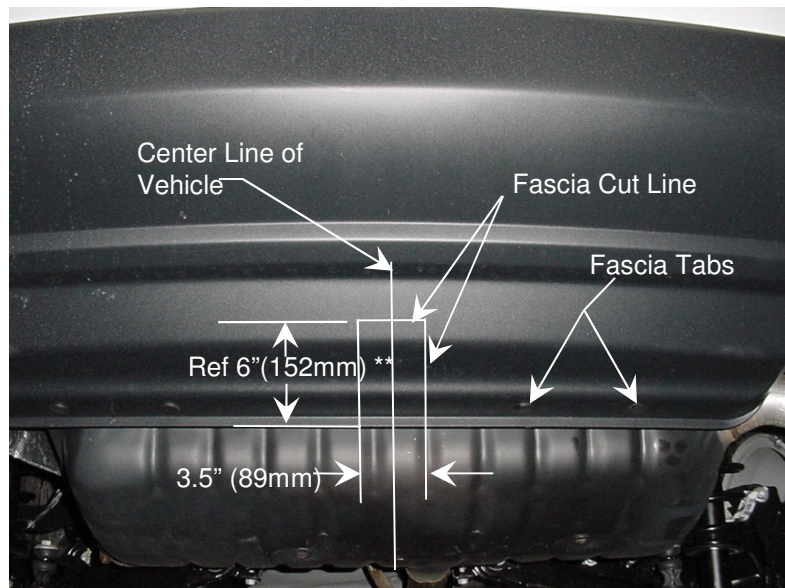

Figure 5 Fascia Trimming Diagram for 2011 & Later Jeep Patriot and Compass Models
- 2011 and later Jeep Patriot and Compass models.** Fascia trimming is required for hitch installation. Obtain vehicle owners approval before cutting. 2011 model requires a 3 1/2" (89mm)x 6" (152mm) vertical notch (measured from the bottom of the fascia lip). Mark fascia with non-permanent marker. Confirm fascia cut height by using figure 4 procedure and mark height from ground on fascia. Cut the lower of the two marks. Use Template as supplied in Appendix "A". See Figure 5 for additional fascia trimming diagrams and dimensions
See diagram (Fig. 3 or Fig 5 as appropriate).